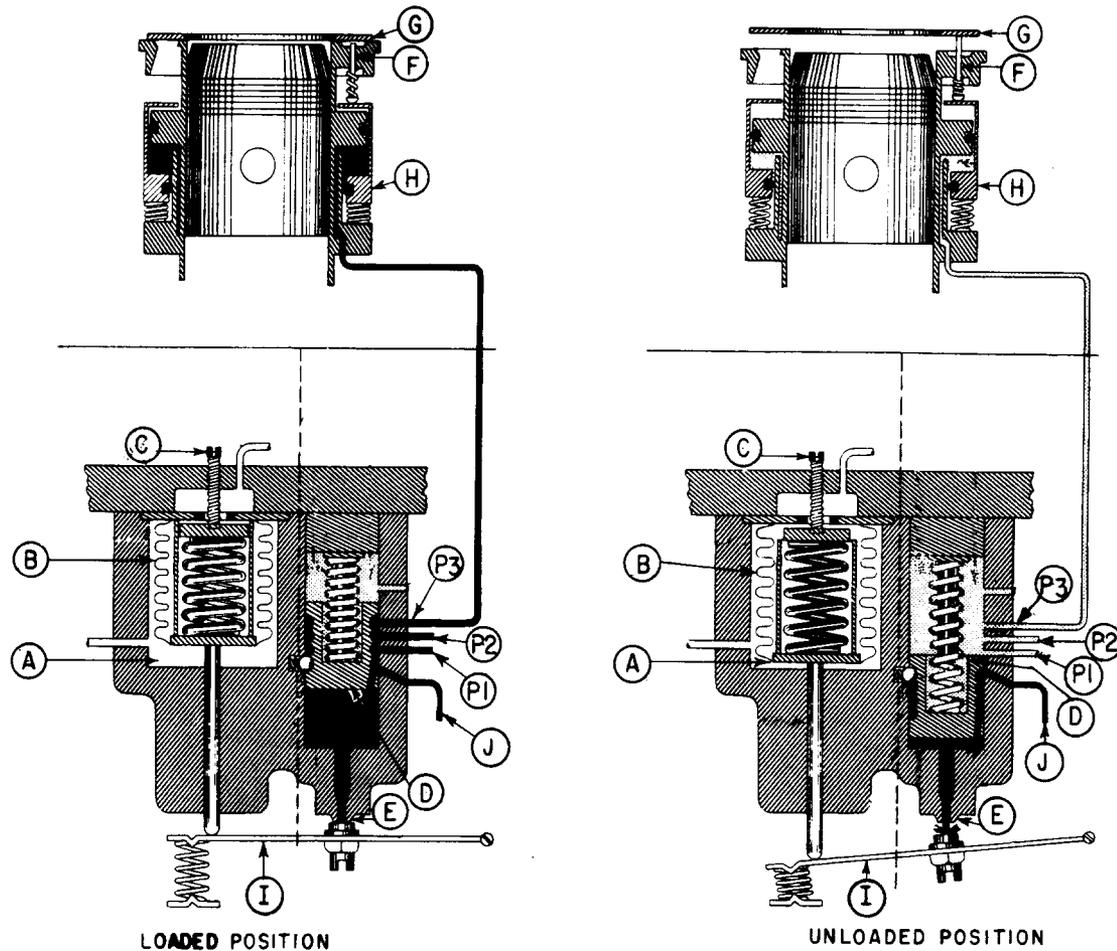

Fig. 7 — Unloader Mechanism
3.10 Unloader Mechanism: (See Fig. 7) Most recently designed multicylinder compressors come equipped with some form of cylinder unloader mechanism. This device serves a two-fold purpose:
3.12 Fig. 7 illustrates one type of unloader mechanism in the "loaded" and "unloaded" positions. The complete assembly consists of a pressure-sensing device, lower portion of each figure to the left of the dash line; a valving mechanism, lower portion to the right of the dash line; and the unloader mechanism, the upper portion.